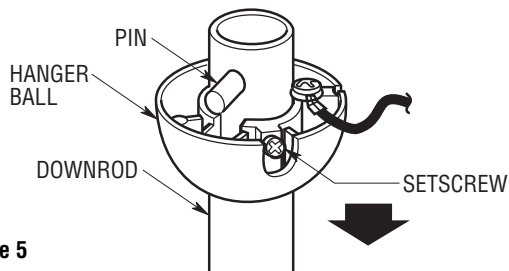

Figure 5
- 7. Remove the hanger ball from the downrod by loosening the setscrew in the hanger ball until the ball falls freely down the downrod (Figure 5). Remove the pin from the downrod, then remove the hanger ball. Retain the pin and hanger ball for reinstallation in Step 15.